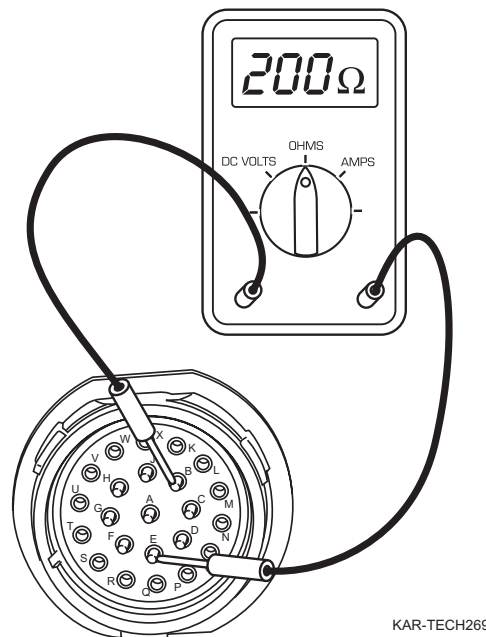

Figure 32
2. Connect ohmmeter to Deutsch connector pins “B” and the corresponding solenoid’s coil pin (Figure 32).